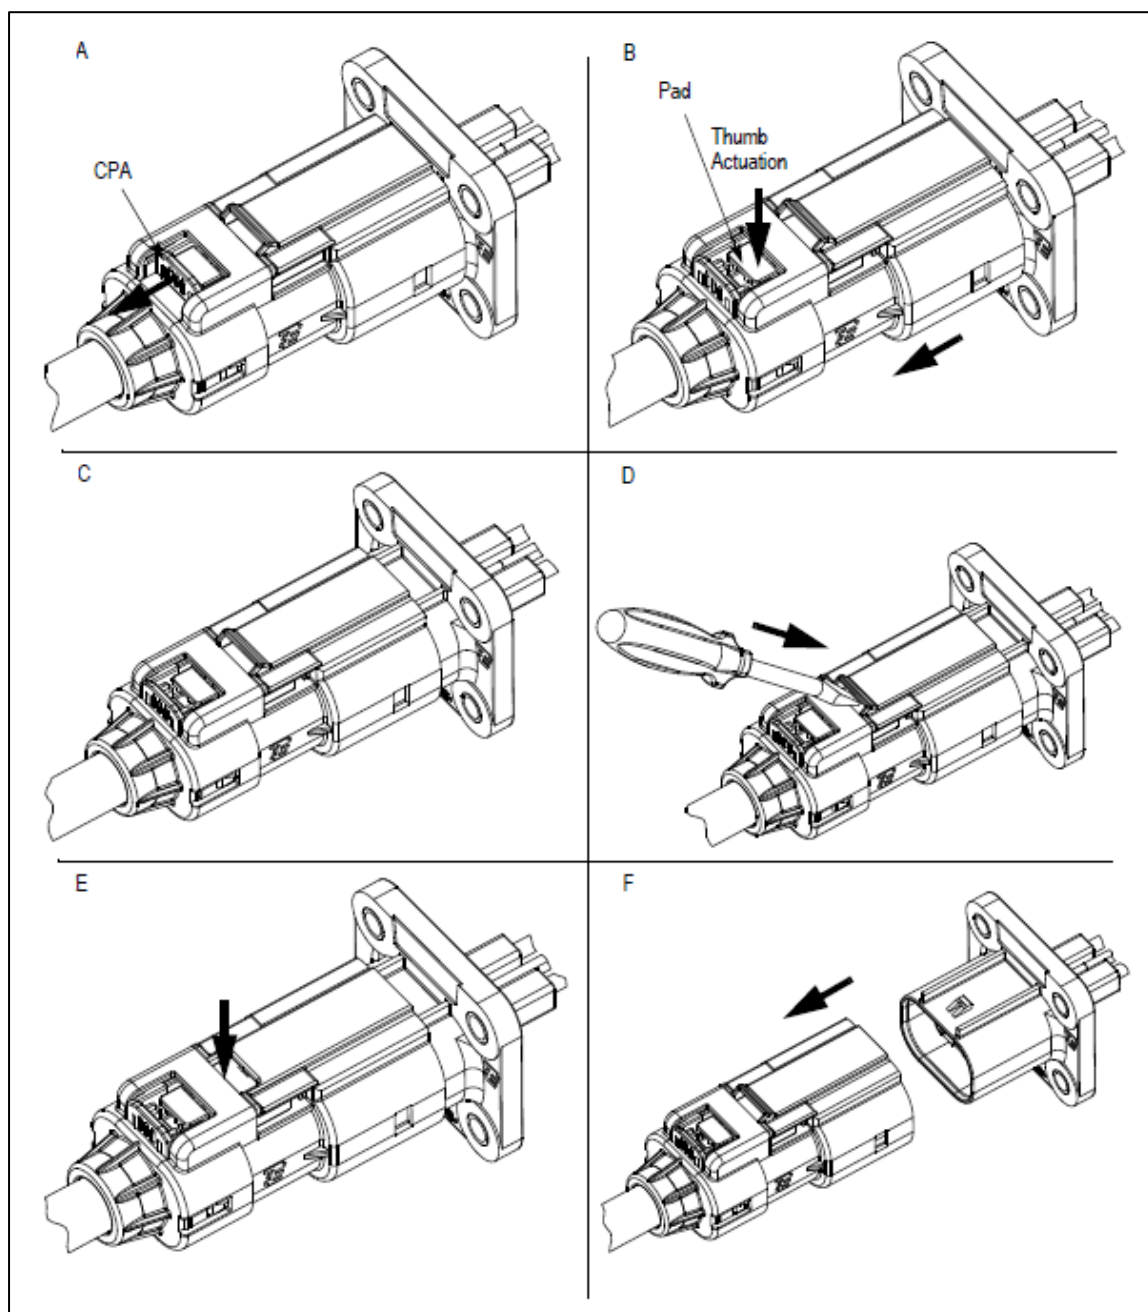

Figure 23 – Connector Un-mating
1. If present, pull the red CPA back from the position as shown in Figure 23 (A) until it stops as shown in Figure 23 (B)
2. Fully depress the thumb actuation pad on the plug connector flexible latch (orange) shown in Figure 23 (B) and pull the plug connector back (~6.2 mm) into the intermediate position. See Figure 23 (C). At this point, in the case of the 2-terminal connector, the HVIL circuit has been opened, but the HV terminals are still making contact.
3. Fully depress the actuation pad on the floating latch (black). See Figure 23 (D).
4. An alternate construction may not require a flat-bladed screwdriver. See Figure 23 (E).
5. Pull the plug connector until it is fully separated from the header. See Figure 23 (F)